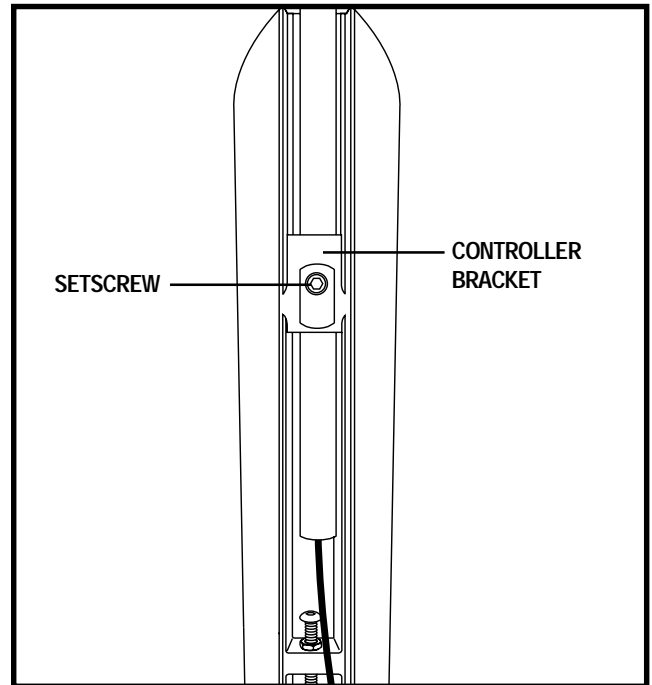

Figure 24. Underside of Armrest
2. Loosen the setscrew on the controller bracket. See figure 24.
4. Flip up the armrest and loosen the setscrew. See figure 24.